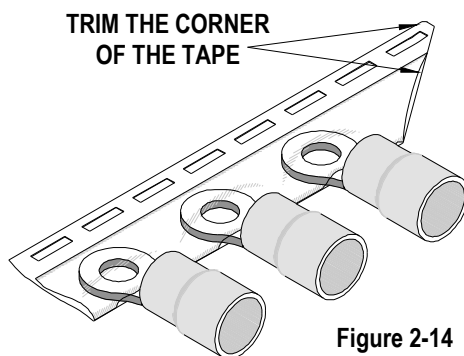

Figure 2-14
3. The tape will be easier to “start” in the track if the corner of the tape is trimmed as shown in Figure 2-14.